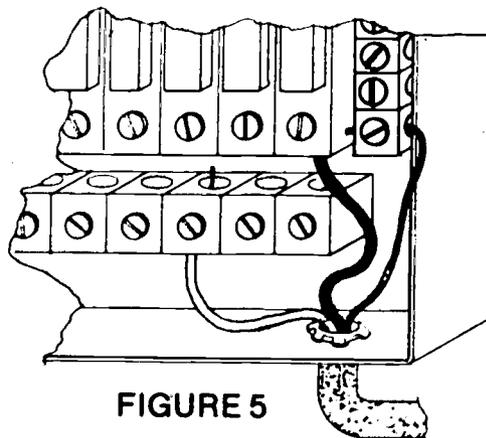

FIGURE 5
- P. Connect ungrounded conductor to appropriate overcurrent protection (Figure 5)